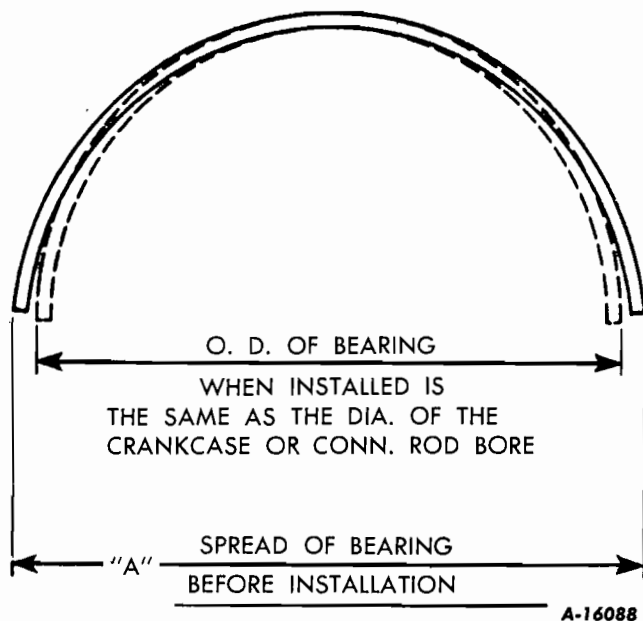

Fig. 65
BEARING SPREAD. Main and connecting-rod bearings are designed with the "spread" (width across the open ends) slightly greater than the diameter of the crankcase bore or connecting-rod bore into which they are assembled, (Fig. 65). For example, the width across the open ends of the Silver Diamond engine connecting-rod bearing, not in place, is approximately .025" more than when the bearing is in position in the rod. This condition causes the bearing to fit snugly in the rod bore and the bearing must be "snapped" or lightly forced into its seat.
1. **Excessive spread.** If measurement of spread (Fig. 65) indicates that distance "A" is excessive (see chart for specifications), place bearing on a wood block (Fig. 66) and strike the side lightly and squarely with a soft mallet. Recheck measurement and, if necessary, continue until correct width (measurement "A" in chart) is obtained.